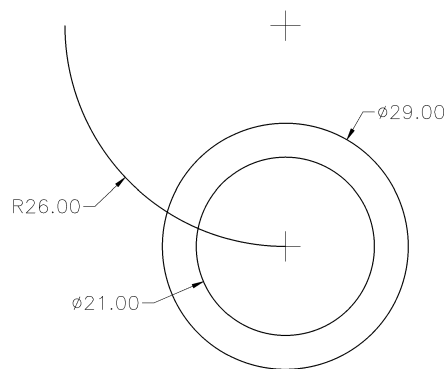

Figure 26-126 Sketch for base pipe feature
6. Draw the path and cross section of the sweep feature, as shown in Figure 26-126.